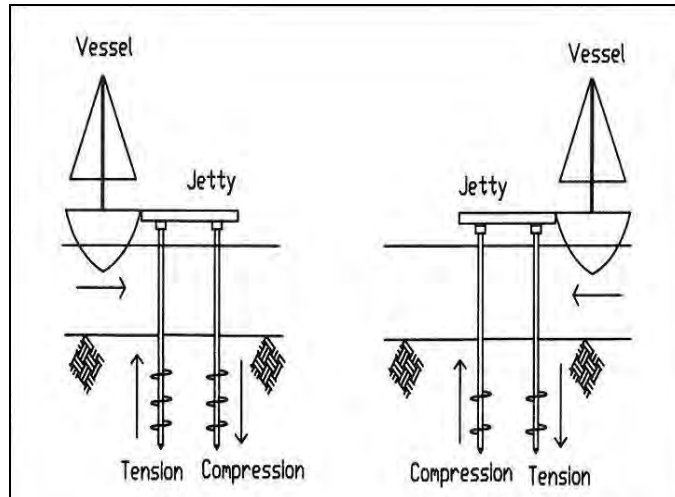

Figure 3: Drill Piles for Jetty
- Jetty as shown in **Figure 3**